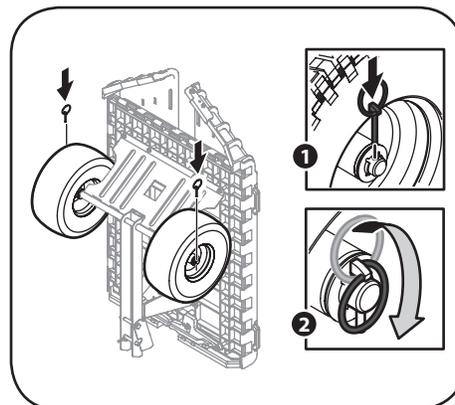

Figure 3-4
5. Install the lynch pins from the hardware pack through the holes in the axles. Flip the lynch pin down over the axle to secure the tires in place. See Figure 3-4.